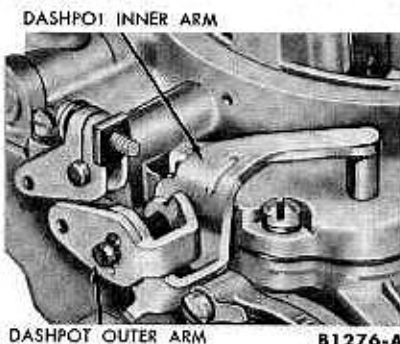

FIG. 41—Dashpot Arms Installation
28. Place one leg of the dashpot outer arm in between the two legs of the dashpot inner arm and slide them into position on the air horn (Fig. 41). The identification "C" on both parts should be to the outside and the inner dashpot arm lever contacting the dashpot plunger. Install the retainer.